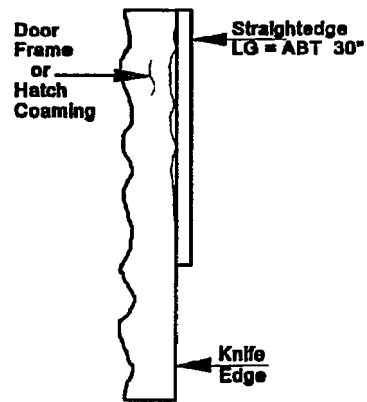
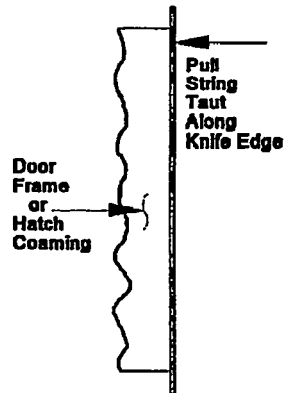
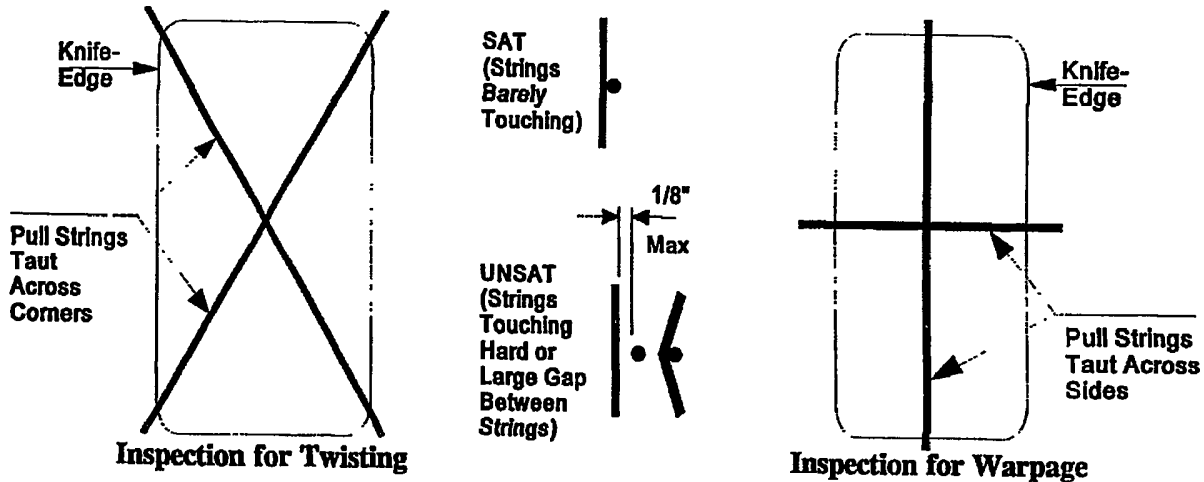

Figure 600-2.12. Knife-Edge Inspection Using Straightedge Method
Figure 600-2.13. Knife-Edge Inspection Using String Method
Figure 600-2.14. Knife-Edge Inspection for Warpage
- a. Open the fitting. Inspect the knife-edge for straightness and/or warpage using a straightedge and two lengths of string. See figure 600-2.12, figure 600-2.13, and figure 600-2.14. The maximum acceptable variation for knife-edge straightness is plus or minus 1/16 inch. The maximum acceptable warpage of the door frame is 1/8 inch. If frame/coaming warpage is excessive, or if the knife-edge straightness is not within tolerances, initiate action to replace the closure.